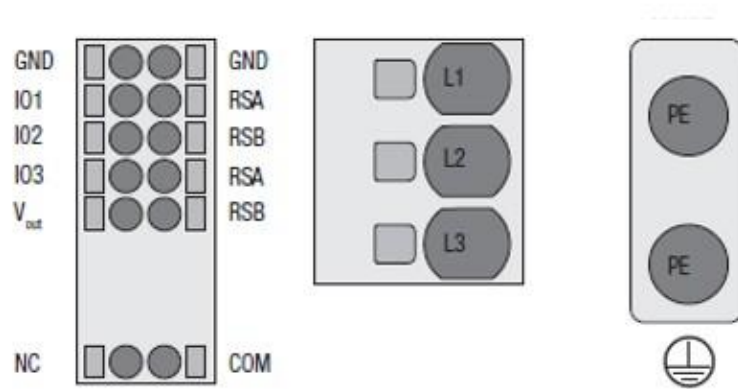
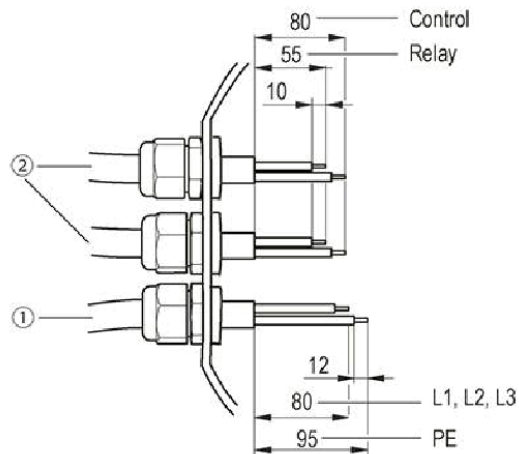

Figure 17. Terminal Block Diagram
Figure 20. Recommended Stripped Lengths (Inside Terminal Box) (1) Supply Line (2) Control and Relay Line
- Remove caps from the cable glands. Label and remove wiring from terminal blocks shown in **Figure 17**. Carefully tag these wires properly to ensure that they are connected at the same location on the new fan. These wires carry polarity sensitive signals.
11. Wire terminal blocks shown in **Figure 17** following the wire labels created in **Step 4**. Refer to **Table 5** for more information on connection designations. Only strip the cable as far as necessary, ensuring that the cable glands are sealed and there is no strain on the connections. Recommended stripped lengths (inside terminal box) are shown in **Figure 20**, (1) supply line (2) control and relay line.